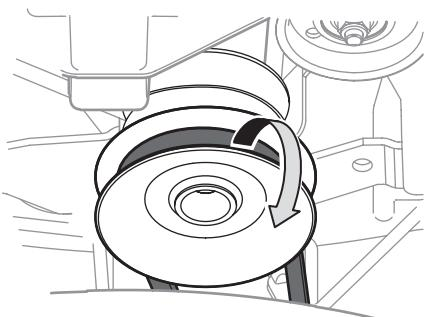

Figure 29
4. Remove the belt from around the riding mower's PTO pulley. See Figure 29.
3. Remove the deck belt from around the riding mower's PTO drive pulley as shown in Figure 29. Simply roll one side of the belt off of the pulley and then work it off the pulley by continuing around the pulley until the belt is off of the pulley.
9. Feed the deck belt through the belt keeper rod and work it around and onto the PTO drive pulley as shown in Figure 29.